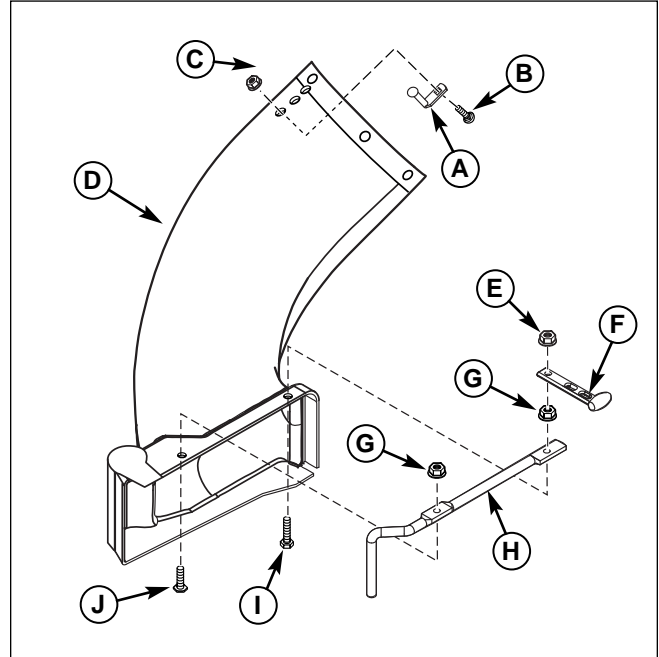

**Figure 7. Install Mounting Plate**
1. Install mounting plate (A, Figure 7) to mower deck as shown. Secure with 5/16-18 x 5/8 carriage bolts (C) and 5/16-18 locknuts (A).